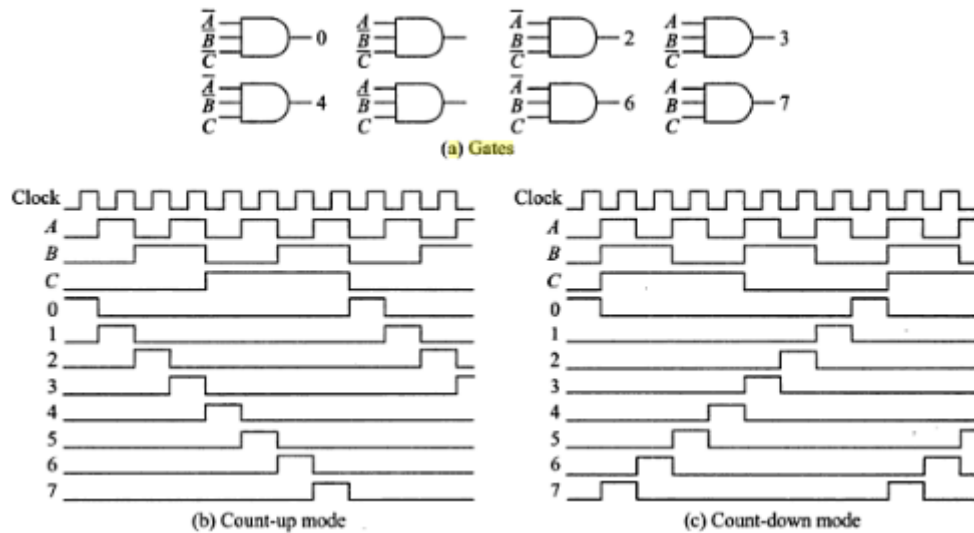

Figure 10.7: Decoding gates for a 3-bit binary ripple counter
- This counter can be formed by using the mod-3 counter in conjunction with a flip-flop (Figure:10.7).